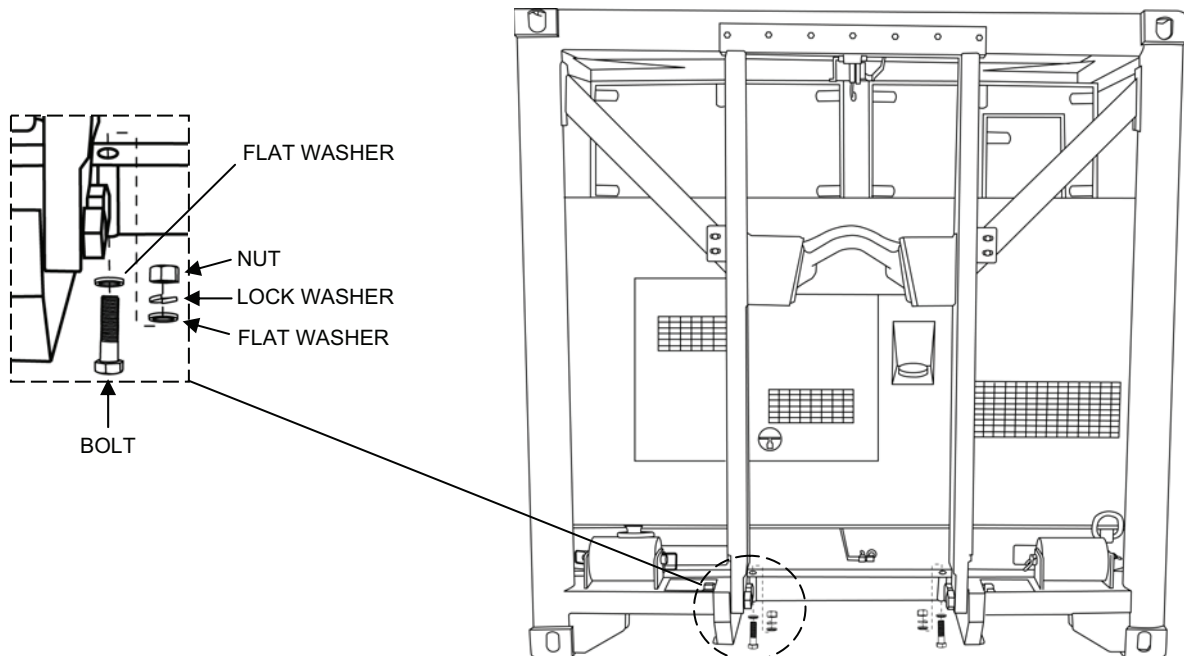

Figure 2. TQG Removal from the Flat Rack.
2. Remove the TQG from the flat rack as follows (see Figure 2):